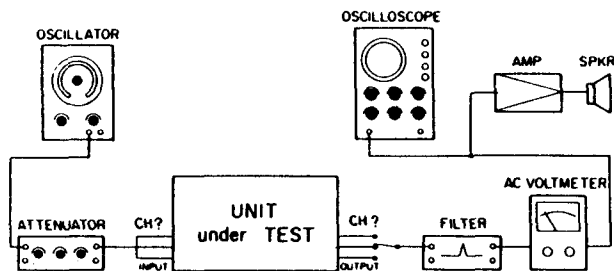

FIG. 33. CROSSTALK TEST SET-UP
1. Connect test equipment as shown in Fig. 33. The filter to be used is a 1 kHz B.P.F.